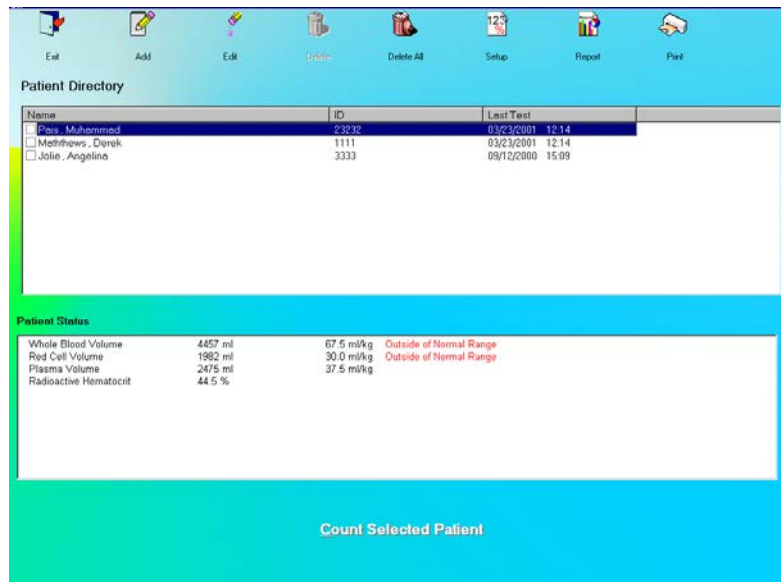

Figure 10-27 I 125 Blood Volume Test Main Screen
Click the **I 125 Blood Volume Test** button or press *Alt+I* on Figure 10-1 Lab Tests Main Screen (page 10-2). Figure 10-27 I 125 Blood Volume Test Main Screen will appear. The **Patient Directory** box will be empty if there are currently no existing patients in the database. Each added patient will appear in this box with their name and ID number along with the time and date the last test was performed. The **Patient Status** box will show the data status on the patient if the test has not yet been performed, or the latest test results.
1. Click the  icon on Figure 10-27 I 125 Blood Volume Test Main Screen. The screen appears as shown in Figure 10-28. This screen allows the user to input counting parameters, which will be the default settings each time a patient is entered into the I-125 Blood Volume Test patient directory. These settings may be changed as needed for any individual patient or patients.
3. Click the  button to save changes or click the  button to discard the changes and return to Figure 10-27 I 125 Blood Volume Test Main Screen.
Note: All fields in **bold** are required, before beginning the I-125 Blood Volume Test. However, you may enter the **Patient Name**, **Date of Birth** and **Patient ID** alone, click the  button and input the remaining information later. The **Patient Status** box on Figure 10-27 I 125 Blood Volume Test Main Screen will display the message "Data Partially Entered".
1. Click the  icon on Figure 10-27 I 125 Blood Volume Test Main Screen. The Patient Information screen appears as shown in Figure 10-29, with information to be entered in three sections.
8. To add more patients, click the  icon on Figure 10-27 I 125 Blood Volume Test Main Screen.